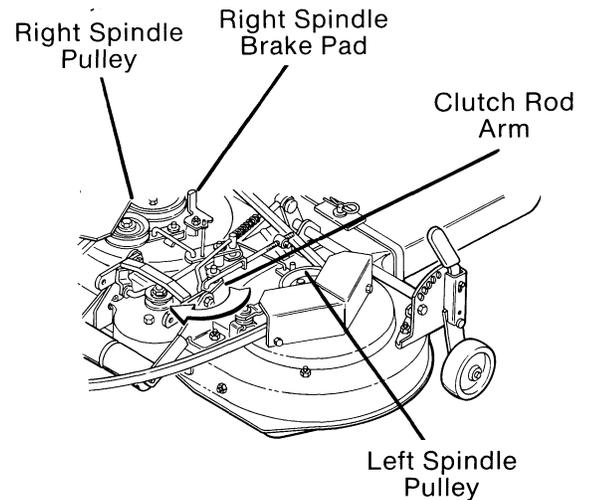

FIG. 19
- D. Turn clutch rod arm counterclockwise (Fig. 19), right spindle brake pad should move away from right spindle pulley. Work belt off between right spindle pulley and brake pad.
- Turn clutch rod arm clockwise (Fig. 19) left spindle brake pad should move away from left spindle pulley. Work center spindle belt off between left spindle pulley and brake pad.